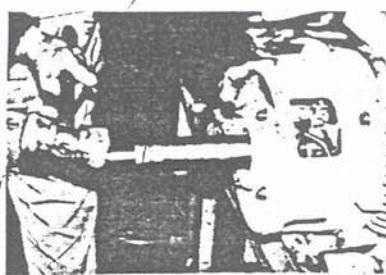

Fig. 8-9
- l) Apply a wooden plank to the shaft end on the commutator side and top the wooden plank with a wooden hammer to remove the armature from the commutator shield. Subsequently withdraw the rotor from the frame. (Fig. 8-9)